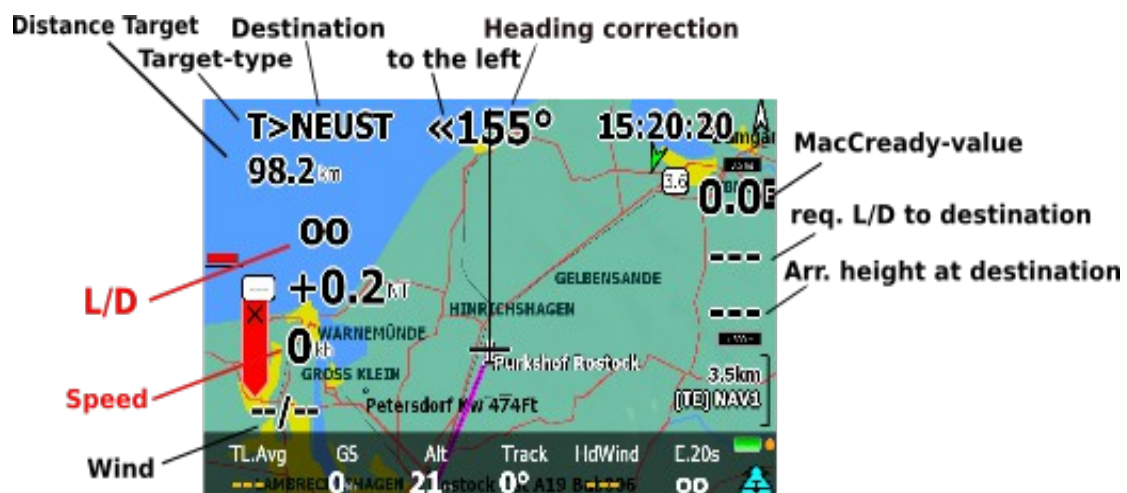

Figure 13.23: Flight parameters **Half insertion** and **Full insertion**
- **Full insertion**, **fig. 13.23**.
The flight parameters shown by **Half Insertion** are displayed in Black and the parameters shown by **Full Insertion** are displayed in Red (as in the shown **fig. 13.23** the plane is still on the ground some parameters are not shown)